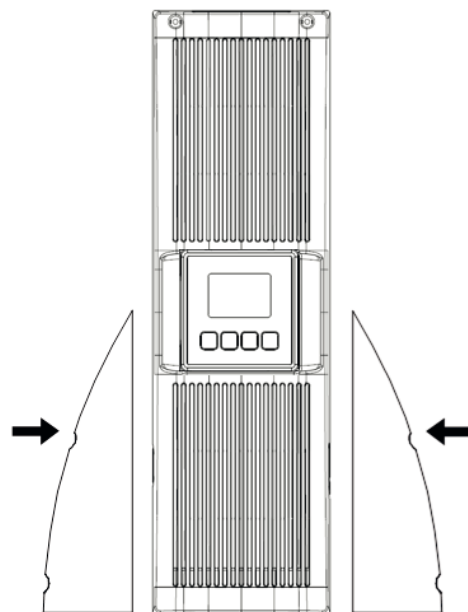

Figure 5: Support positioning
3. Screw the supports to the sides of the unit as shown in Figure 5.